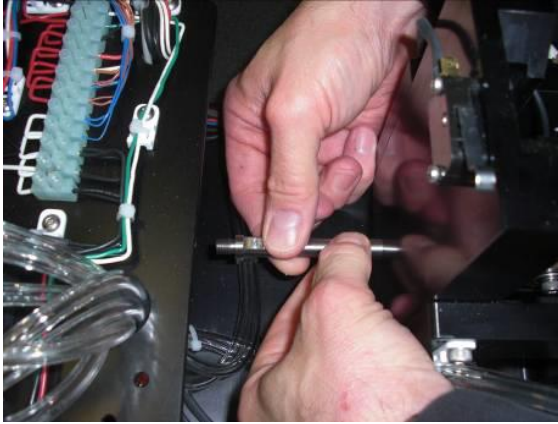

Figure 2.4.6
- Insert the pin tip into the hole near the bottom of the magazine rack. Slide the pin through the hole until it is horizontal within the CRD600AF. **Figure 2.4.6**